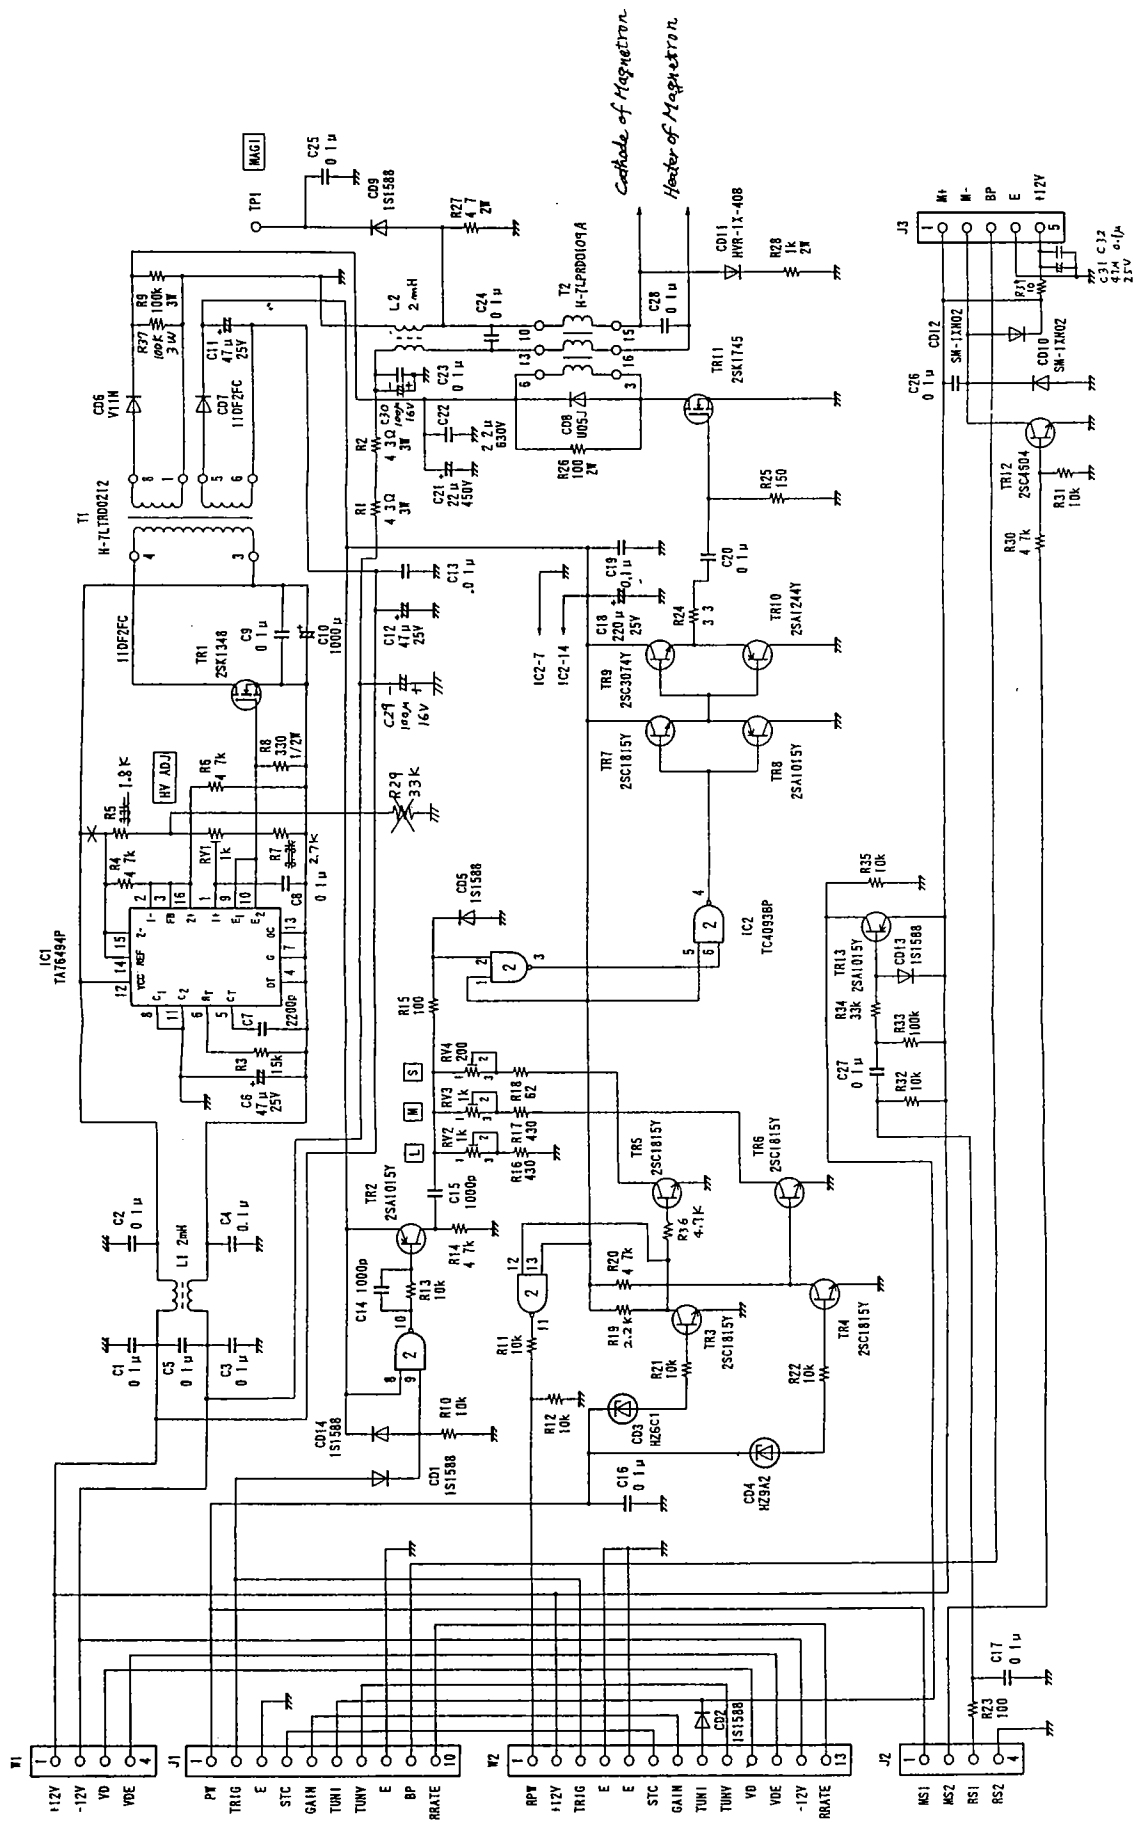

Fig 107 CME-229, MODULATOR
- Fig. 107 CIRCUIT DRAWING OF MODULATOR UNIT CME-229